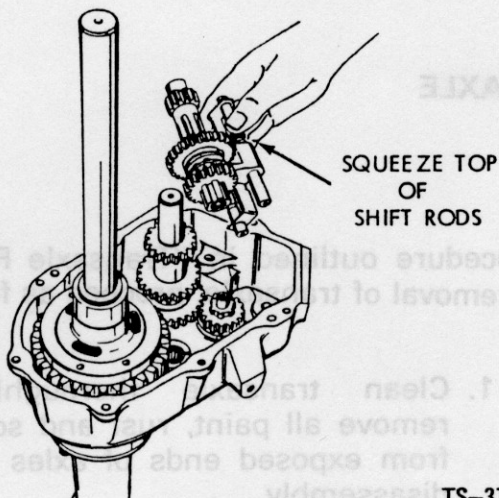

Figure 47 - Removing Shifting Assembly
9. Remove the shifting assembly (Figure 47) by squeezing the ends of the shift rods together. Lift out the assembly as a unit. Prior to removal, note the position of the shifter fork and annular grooves to facilitate reinstallation of the assembly.